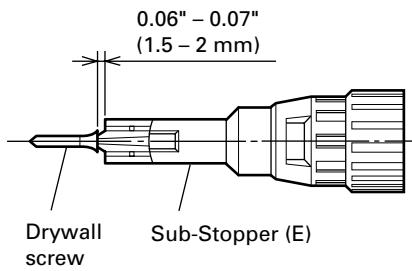

Fig. 5
**(2) For drywall screws (Fig. 5)**